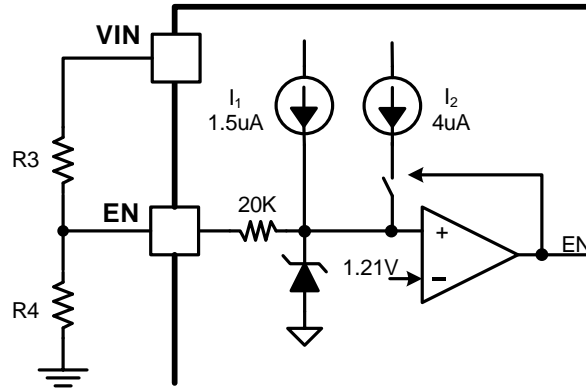

Figure 10. Adjustable VIN UVLO
setup, there is a 4uA hysteresis pull up current source on EN pin which configures the VIN UVLO voltage with an off-chip resistor divider R3 and R4, shown in Figure 10. The resistor divider R3 and R4 are calculated by equation (1) and (2).